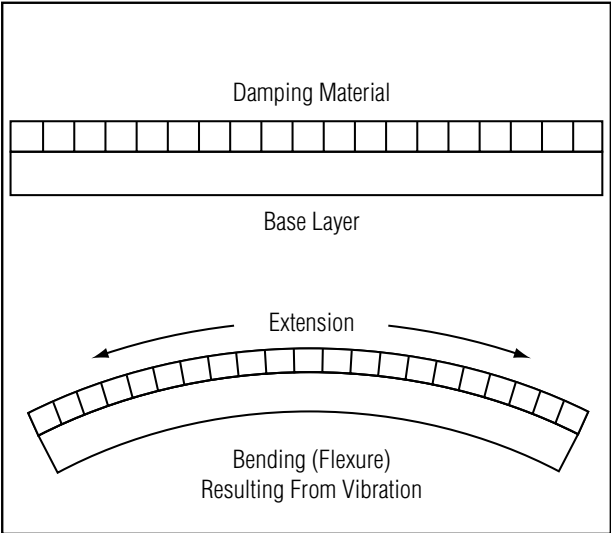

Figure 1
*Free-layer or extensional damping* is one of the simplest forms of material application. (See Figure 1.) The material is simply attached with a strong bonding agent to the surface of a structure. Alternatively, the material may be troweled onto the surface, or the structure may be dipped into a vat of